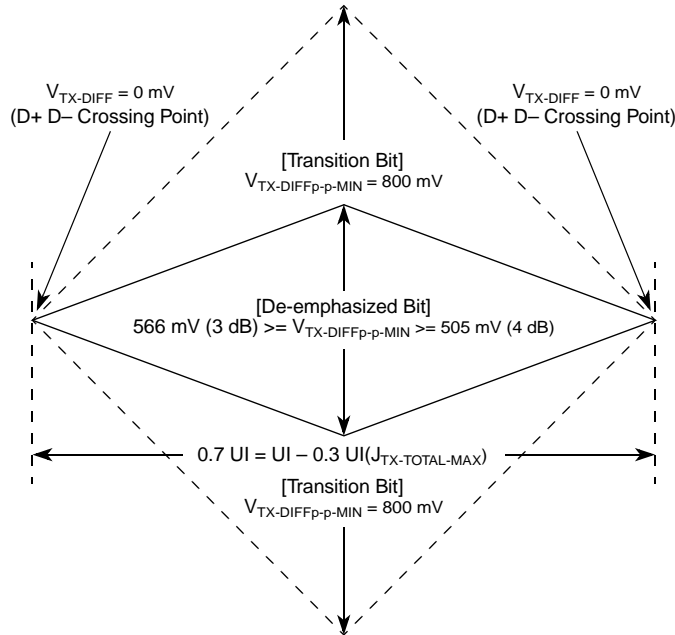
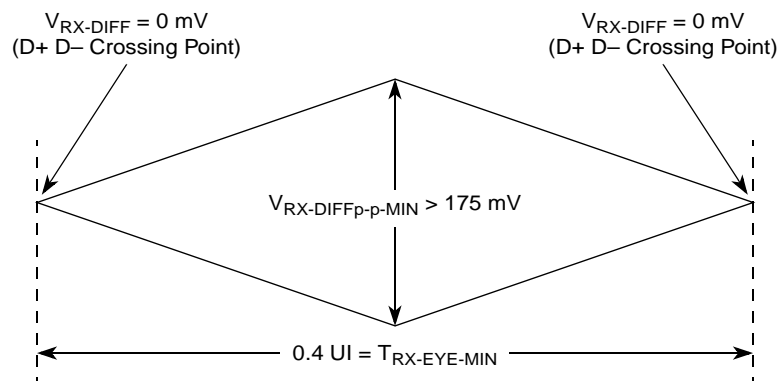
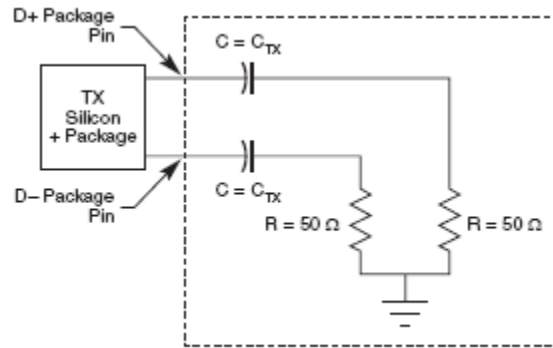

Figure 50. Minimum Transmitter Timing and Voltage Output Compliance Specifications
Figure 51. Minimum Receiver Eye Timing and Voltage Compliance Specification
Figure 52. Compliance Test/Measurement Load
2. Specified at the measurement point into a timing and voltage compliance test load as shown in Figure 52 and measured over any 250 consecutive TX UIs. (Also refer to the transmitter compliance eye diagram shown in Figure 50.)
4. The transmitter input impedance shall result in a differential return loss greater than or equal to 12 dB and a common mode return loss greater than or equal to 6 dB over a frequency range of 50 MHz to 1.25 GHz. This input impedance requirement applies to all valid input levels. The reference impedance for return loss measurements is 50 Ω to ground for both the D+ and D- line (that is, as measured by a vector network analyzer with 50- Ω probes, see Figure 52). Note that the series capacitors, C_{TX} , is optional for the return loss measurement.
5. Measured between 20%–80% at transmitter package pins into a test load as shown in Figure 52 for both V_{TX-D+} and V_{TX-D-} .
The TX eye diagram in Figure 50 is specified using the passive compliance/test measurement load (see Figure 52) in place of any real PCI Express interconnect + RX component. There are two eye diagrams that must be met for the transmitter. Both diagrams must be aligned in time using the jitter median to locate the center of the eye diagram. The different eye diagrams differ in voltage depending on whether it is a transition bit or a de-emphasized bit. The exact reduced voltage level of the de-emphasized bit is always relative to the transition bit.
2. Specified at the measurement point and measured over any 250 consecutive UIs. The test load in Figure 52 should be used as the RX device when taking measurements (also refer to the receiver compliance eye diagram shown in Figure 51). If the clocks to the RX and TX are not derived from the same reference clock, the TX UI recovered from 3500 consecutive UI must be used as a reference for the eye diagram.
4. The receiver input impedance shall result in a differential return loss greater than or equal to 15 dB with the D+ line biased to 300 mV and the D- line biased to -300 mV and a common mode return loss greater than or equal to 6 dB (no bias required) over a frequency range of 50 MHz to 1.25 GHz. This input impedance requirement applies to all valid input levels. The reference impedance for return loss measurements for is 50Ω to ground for both the D+ and D- line (that is, as measured by a vector network analyzer with $50\text{-}\Omega$ probes, see Figure 52). Note that the series capacitors, C_{TX} , is optional for the return loss measurement.
The RX eye diagram in Figure 51 is specified using the passive compliance/test measurement load (see Figure 52) in place of any real PCI Express RX component. In general, the minimum receiver eye diagram measured with the compliance/test measurement load (see Figure 52) is larger than the minimum receiver eye diagram measured over a range of systems at the input receiver of any real PCI Express component. The degraded eye diagram at the input Receiver is due to traces internal to the package as well as silicon parasitic characteristics which cause the real PCI Express component to vary in impedance from the compliance/test measurement load. The input receiver eye diagram is implementation specific and is not specified. RX component designer should provide additional margin to adequately compensate for the degraded minimum Receiver eye diagram (shown in Figure 51) expected at the input receiver based on an adequate combination of system simulations and the return loss measured looking into the RX package and silicon. The RX eye diagram must be aligned in time using the jitter median to locate the center of the eye diagram.
The reference impedance for return loss measurements is 50 Ω to ground for both the D+ and D- line (that is, as measured by a Vector Network Analyzer with 50 Ω probes—see Figure 52). Note that the series capacitors, $C_{PEACCTX}$, are optional for the return loss measurement.
The AC timing and voltage parameters must be verified at the measurement point, as specified within 0.2 inches of the package pins, into a test/measurement load shown in Figure 52.